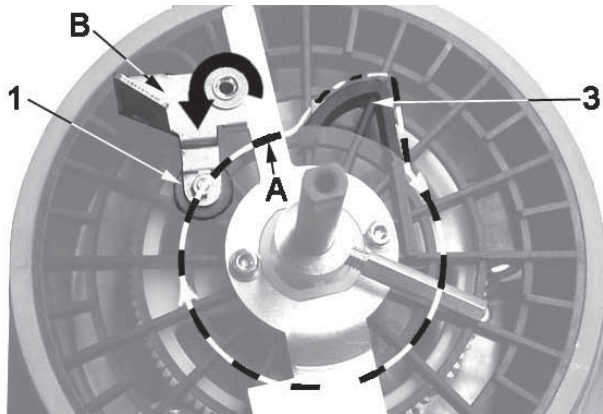

Figure 15 Switching parts of the low-level control for grease (when reservoir is filled).
Grease Reservoir Full of Grease - Fig. 15
- The pivot bracket of the stirring paddle (B) (Fig. 15) is completely submerged into grease and grease resistance to paddle rotation guides the bracket with round magnet 1 inward to orbit (A).
- Control Cam (3) (Fig. 15) guides the pivot bracket with magnet and outwards, in the direction of the reservoir wall. Since reservoir is full, grease resistance guides pivot bracket inward to orbit (A) as soon as bracket passes the cam (3).
NOTE: The above mentioned switching parts (1 to 3) (Fig. 15 & 16) must not be used with fluid grease or oil. In this case, use a float magnetic switch.